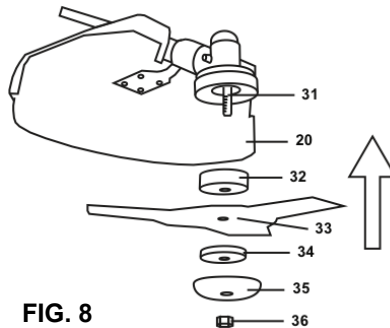

FIG. 8
7. Place the locking flange (34) and the washer onto the cutter blade (33).
8. Secure the cutter blade (33) with the nut (36) (Fig. 8).
9. Remove the hex key (46).